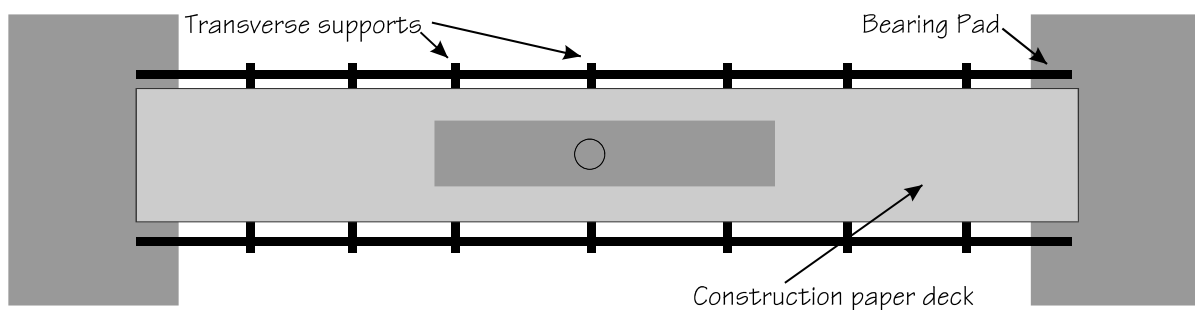

Figure 1b - Top view of bridge in testing apparatus
- 2.8 The bridge should be designed to support the highest load possible when applied via a longitudinal loading plate and distribution pad placed on the deck of the bridge. This loading plate should span over multiple transverse supports (see Figure 1b). The plate and the pad are part of the APEGBC testing apparatus.